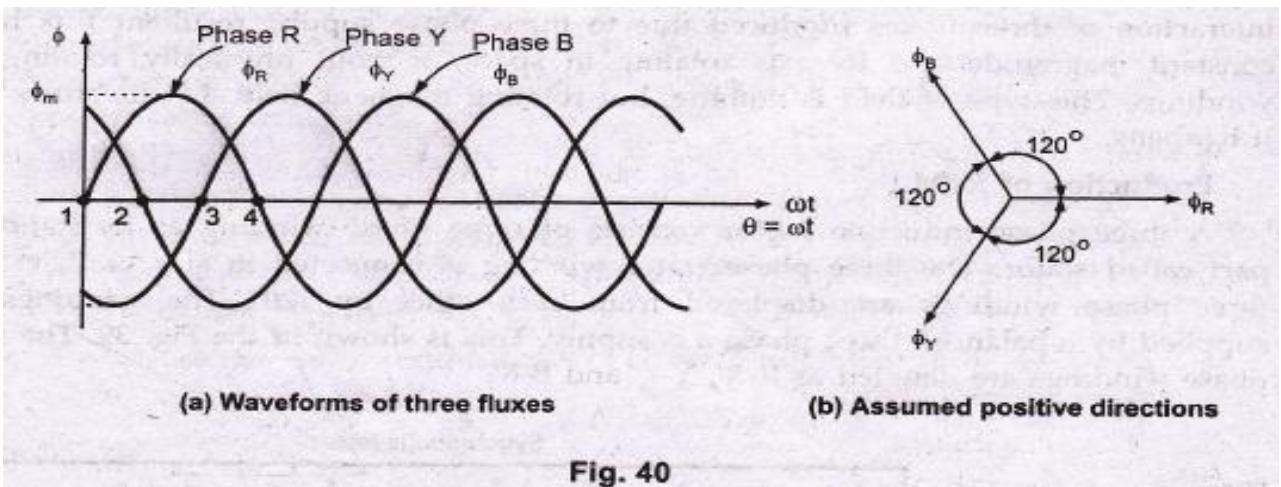

Fig. 40
The fig. 40 shows the waveforms of three fluxes in space. The fig. 40 shows the phasor diagram which clearly shows the assumed positive directions of each flux assumed positive direction means whenever the flux is positive it must be represented along the direction shown and whenever the flux is negative it must be represented along the opposite direction to the assumed positive direction.
Let us find ϕ_T at the instants 1, 2, 3, and 4 as shown in the fig. 40 which represents the values of θ as 0° , 60° , 120° and 180° respectively. The phasor addition can be performed by obtaining the values of ϕ_R , ϕ_Y and ϕ_B by substituting values of θ in the equation (1), (2) and (3).